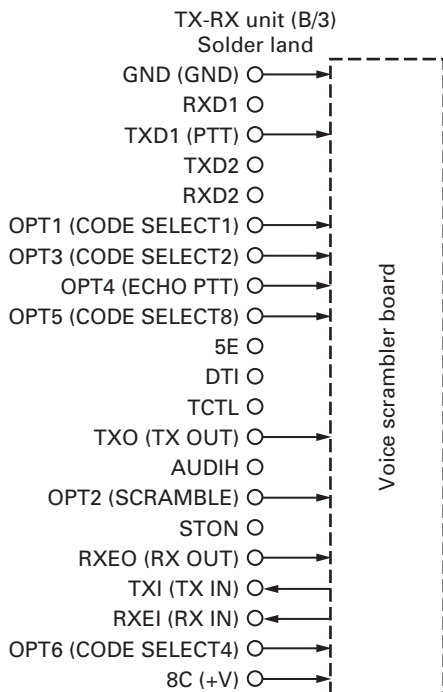

Fig. 6-1
3. Wrap the scrambler board in a cushion and install it on the front of the chassis as shown in Figure 6-1.